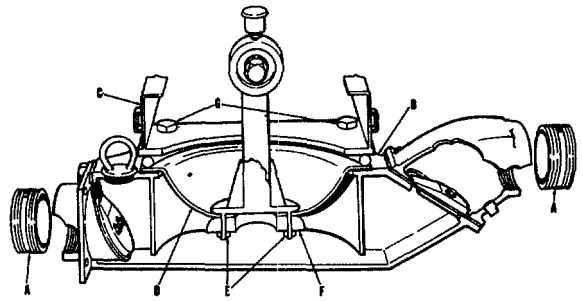
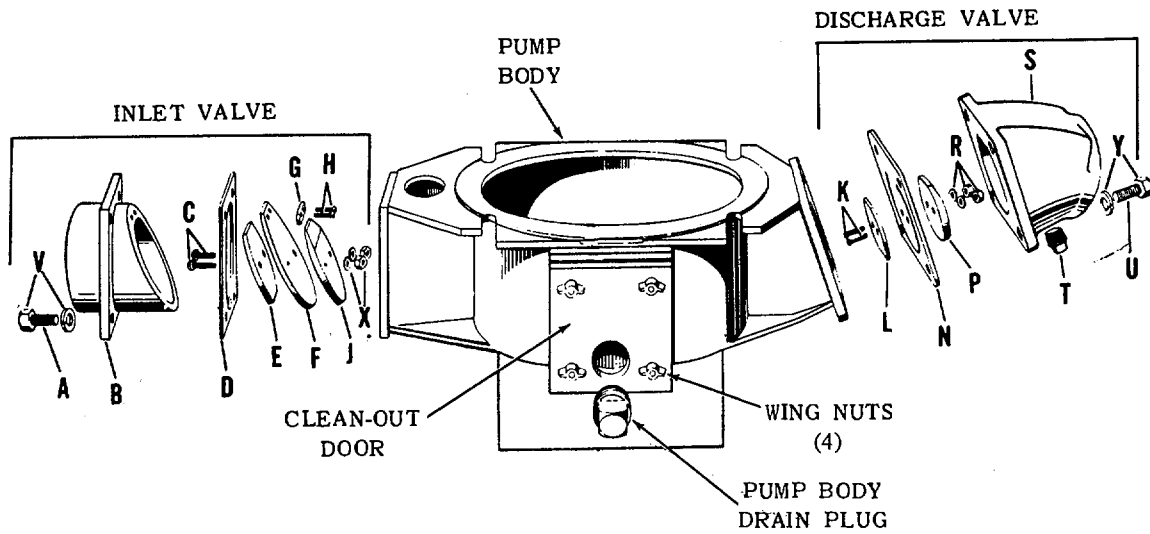

FIGURE 4
FIGURE 3A
5. Assembly - The rubber diaphragm has been removed from the pump at the factory and must be reinstalled on the pump before operation. Remove preservative before installation. For installation of the rubber diaphragm, refer to Chapter IV, Paragraph 18. Thread the 4" close nipples into the inlet and outlet valves. Nipples (A) must be tight with no air leaks. (Reference Fig. 4)
18. Changing The Diaphragm (Fig. 4)
- A. With the pump body (B) drained, turn the engine starting pulley until the connecting rod is in its lowest position.
- B. Remove four bolts and nuts (G) holding pump body to the frame (C).
- D. The rubber diaphragm (D) is now fully exposed.
- E. Remove two 5/8" brass nuts (E) and remove diaphragm flange (F).
- F. Pull old rubber diaphragm (D) off pump. Clean the inner and outer diaphragm seating areas on pump with a steel brush.
- G. Position new rubber diaphragm (D) in place. Replace diaphragm flange (F) and secure with brass nuts (E). Tighten nuts (E) until diaphragm is slightly depressed. Remove preservative from new diaphragm.
- H. Swing the combination pump top and frame down to its normal position. Secure with the four bolts and nuts (G), taking up a like amount on each nut to equalize pressure on the rubber diaphragm edge.
19. Inlet Valve Repair (Fig. 3A)
- A. With the suction line off (disconnected) and pump drained, or if working conditions permit, suction line may be left on the inlet valve, remove four 5, %" nuts and washers (V) from studs (A). Pull inlet valve free from pump body. Do not damage gasket (D). Save for reuse.
- B. Remove two brass screws (H), and keeper (G). Save for reuse. Remove two brass screws (C) with nuts and washers (X). Loosen and remove washer (E) and weight (J).
- C. With new rubber flap valve (F), reassemble flap valve assembly. Replace inlet valve assembly with gasket (D) on pump body and secure with the four 5/8" nuts and washers (V) on studs (A).
20. Discharge Valve Repair (Fig. 3A)
Reference for Fig. 4